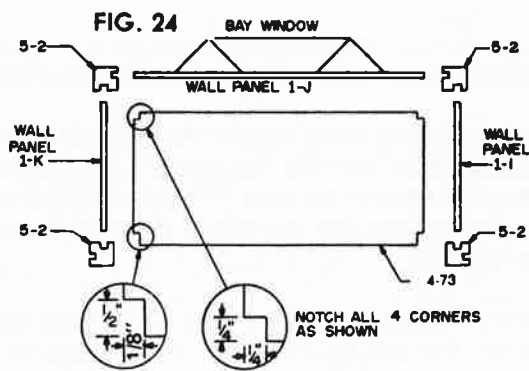

FIG. 29
14. ☐ Install the rear corner posts (part no. 5-1) on the rear edges of wall panels 1-C and 1-M, as shown in Figure 29.
15. ☐ Assemble wall panels 1-L and 1-M by applying glue to the grooves in the front corner post (part no. 5-2), as shown in Figure 29. Seat the wall panels all the way into the grooves, then tape the corner together on the outside of the house. Before the glue sets, proceed with Step 16.